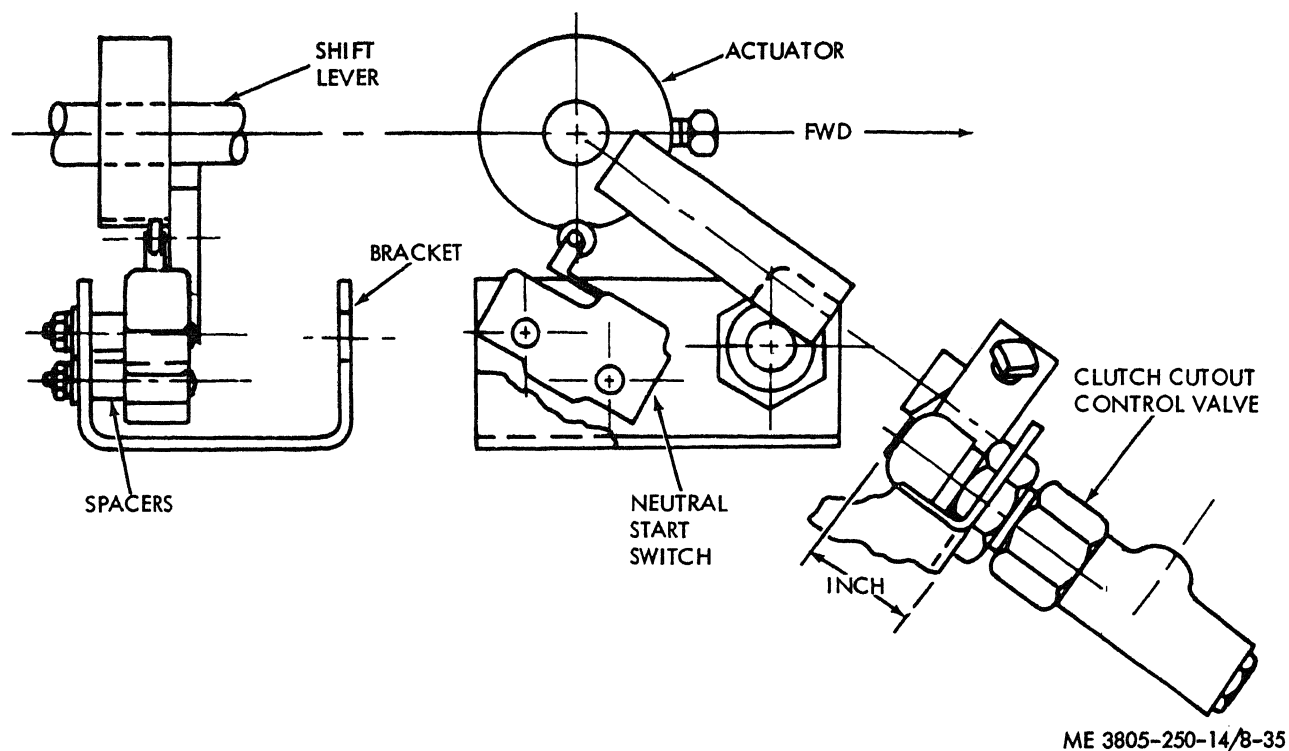

Figure 8-35. Clutch cutout adjustment.
- (1) Place the shift lever in neutral position.
- (2) Locate the actuator on the shift lever shaft until the ramp on the actuator arm is aligned to the valve poppet and will engage the ramp without interference. Refer to figure 8-35. Tighten setscrew.